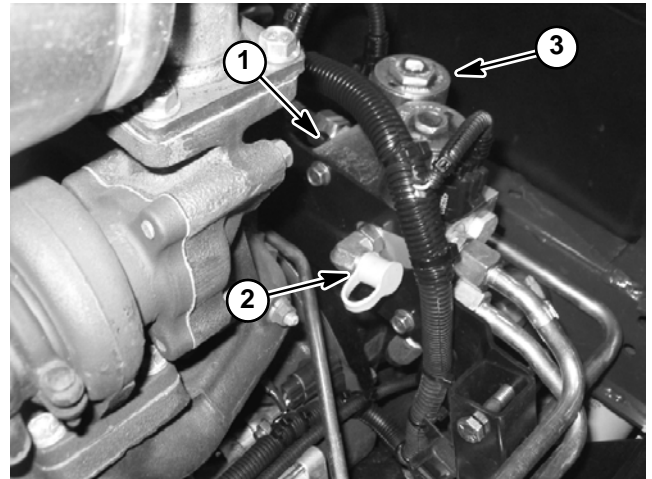

Figure 54
3. Raise and support hood to gain access to fan control manifold (Fig. 54). Connect a 5,000 PSI (345 bar) gauge with hydraulic hose attached to test fitting in port G on rear of manifold.